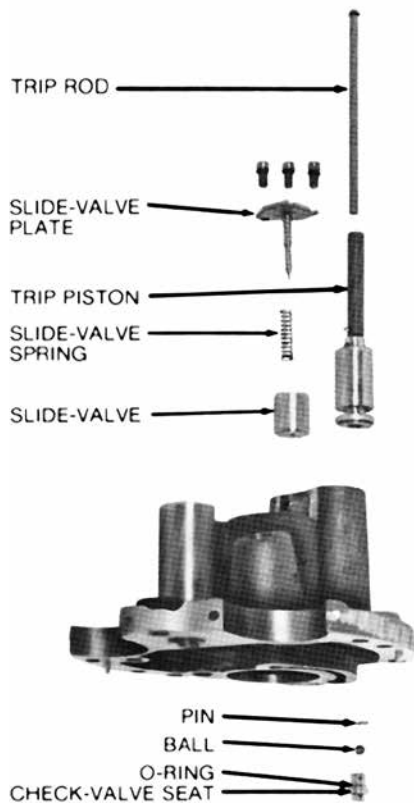
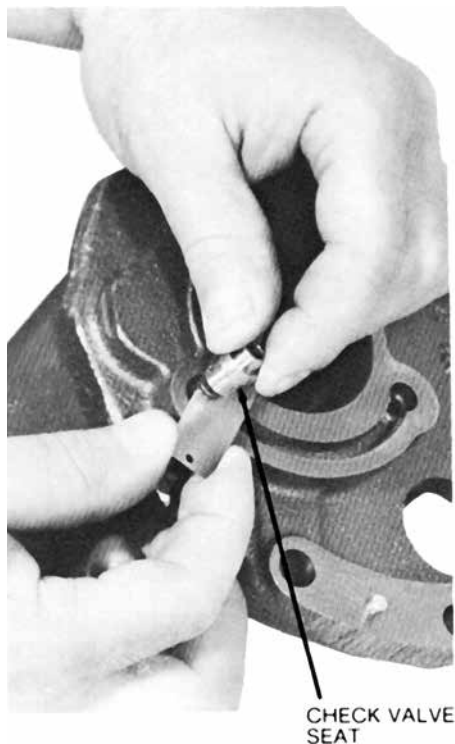

Figure 27. Removing slide valve, check valve and trip valve
Figure 28. Removing check valve seat
8. Remove the slide valve plate and gasket by releasing three screws. Tip the frame so the valve will slide out (Figure 27).
9. With a wire hook, pull the ball check valve seat out enough to expose the spring (but not more than 1-in.) and insert a thin plate as demonstrated in Figure 28. Then push the pin out to release the spring. A steel ball will be released. Lift out the trip piston. Figure 27 shows parts removed in steps 8 and 9.